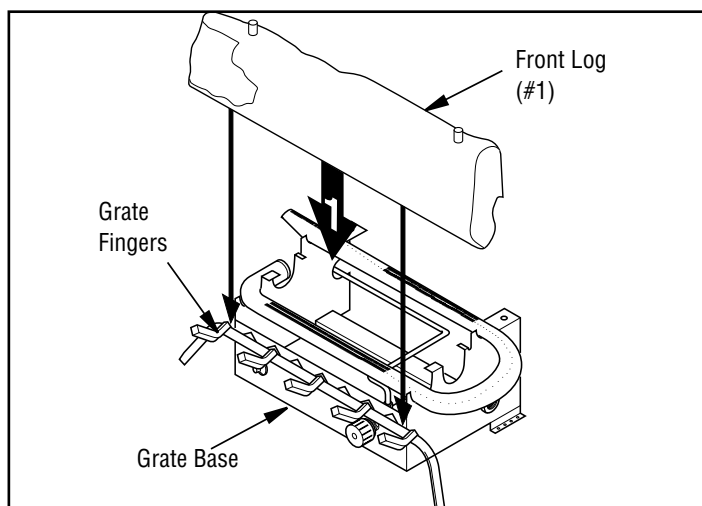

Figure 17 - Installing Front Log #1 (Biltmore24LTN/LTP Shown)
1. Place front log (#1) on grate fingers. Make sure front log rests firmly between grate fingers and grate base (see **Figure 17**).